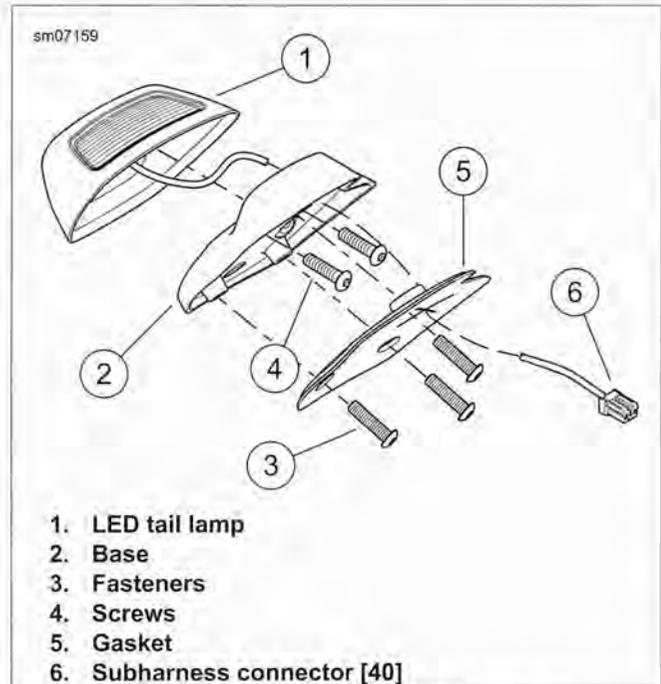

Figure 6-61. LED Tail Lamp: XL 1200C/CP
5. See Figure 6-61. Remove the three hex head fasteners (3) and remove the wire harness from the inner fender rail.
6. Separate the tail lamp base (2) from the rubber gasket (5).
7. Remove the two screws (4) to remove the LED (1) from the tail lamp base.